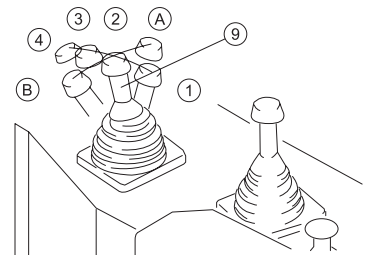

Figure 2-11
Blade control lever (9) (Figure 2-11)
► When the control lever is in position (4), it cannot be automatically bounced back to the fixed position (2), and must be manually pulled back. When operating the straight tilt blade, the control lever is pulled to position (A), and the blade is tilted to the right; when it is pulled to position (B), the blade is tilted to the left. (Figures 2-11 and 2-13)
► The blade can tilt when it is in any position between (1) and (3);
► Positions (A) and (B) are used for straight tilt blade only;
► When the tilt cylinder reaches the end of its journey, the control lever should be immediately pulled to fixed position (2);